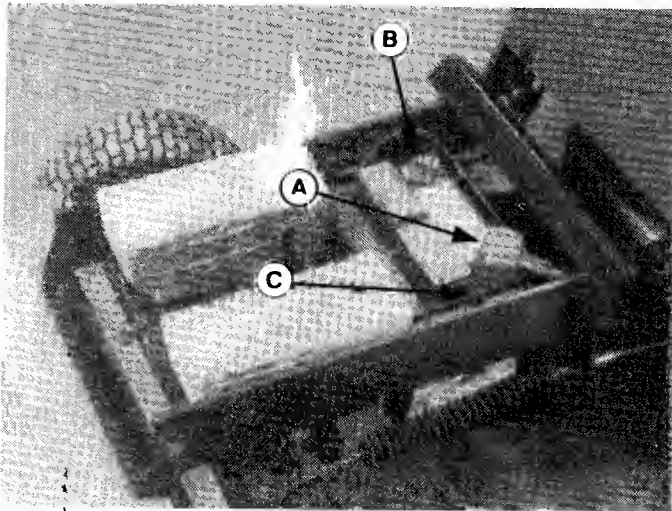

Figure 9. Battery
1. Disconnect the cables from the battery, negative cable first. A positive "+" sign is stamped on the battery next to the positive terminal. For mfg. no. 1691459 and 1691460, lift the rear platform to locate battery (figure 9). For mfg. no. 1691232 and 1691335, the battery is located under the seat deck.